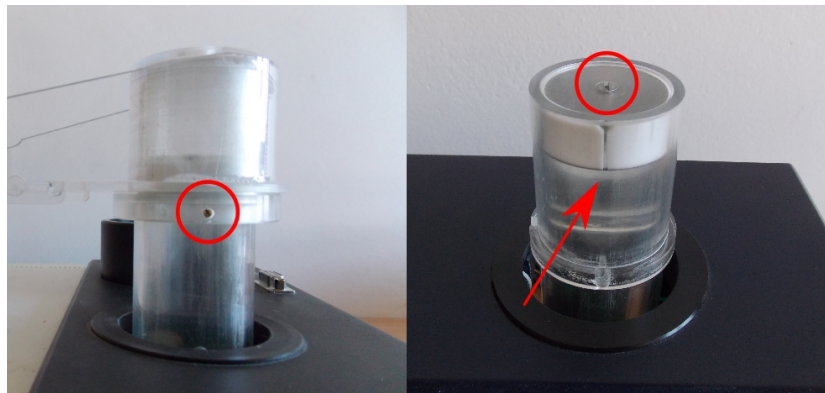

Figure 2
- Loosen a little bit the screw marked by red circle in Figure 2 (left) and the arm of the holder. Use the proper size of screwdriver.
- Unscrew the screw marked by red circle in Figure 2 (right) and remove the plastic washer. Remember a correct position of the teflon ring, marked by red arrow.